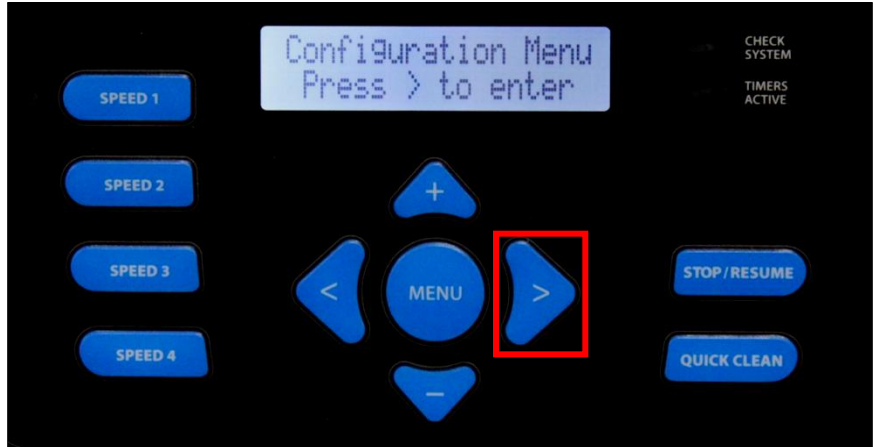

Fig 34
- 4. On the next screen you will be asked to press the  button to enter the Configuration Menu (fig 34).